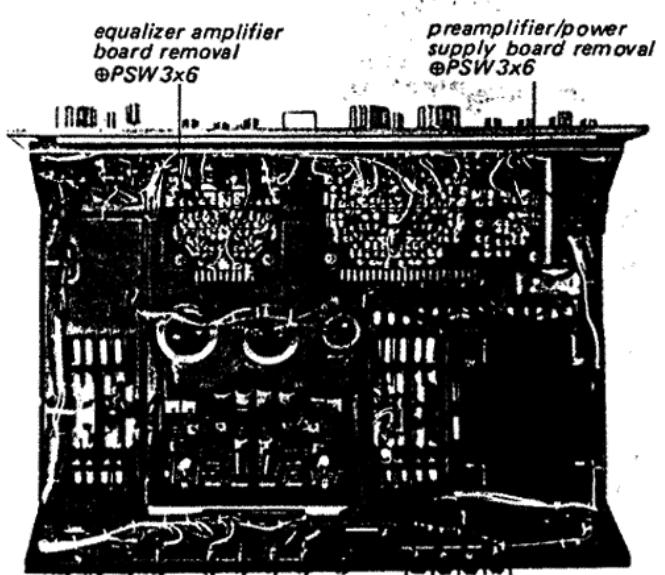

Fig. 2-6. PCB removal
2. Remove the two screws (\oplus PSW 3x6) securing the Preamplifier/Power Supply circuit board to its mounting bracket as shown in Fig. 2-6.
1. Remove the two screws (# PSW 3x6) securing the Equalizer Amplifier Board to its mounting bracket as shown in Fig. 2-6.